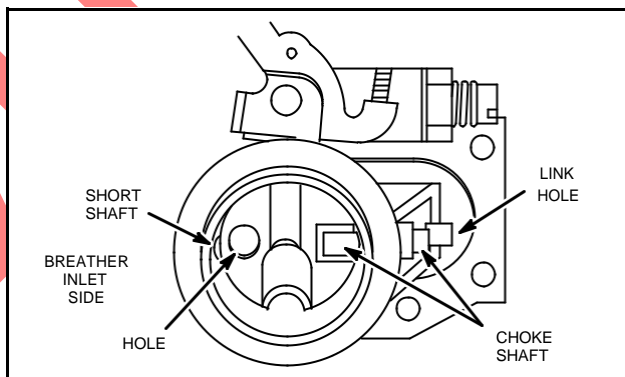

Fig. 239 - ASSEMBLING AUTOMATIC CHOKE
2. Insert choke shaft into choke shaft bore with automatic choke link hole positioned as shown in Fig. 239.